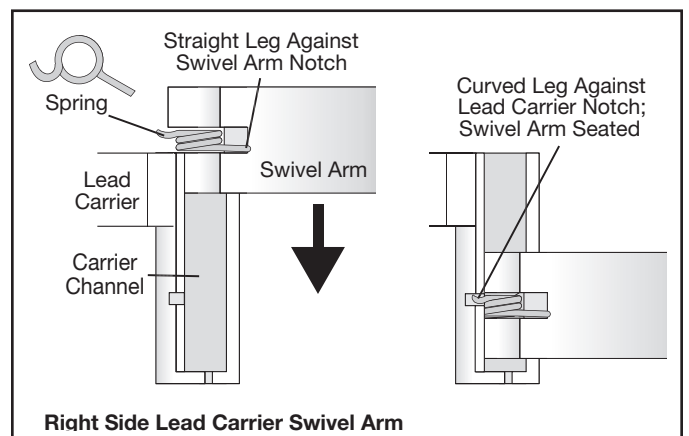

Figure 4
4. Flex the curved end of the spring toward the straight end of the spring and slide the swivel arm into the channel on the lead carrier (see Figure 4). Once in place, the curved end of the spring should rest in the notch on the lead carrier.